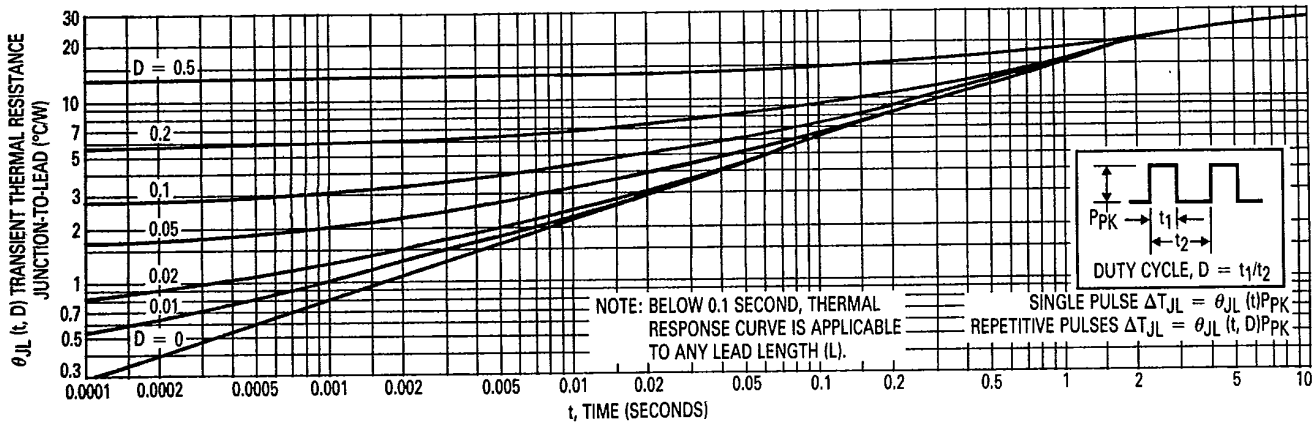
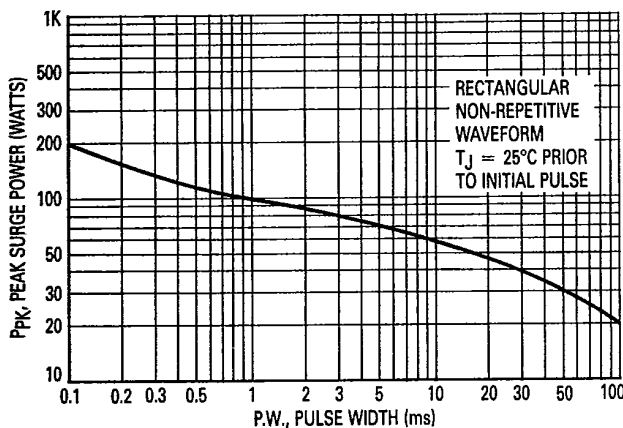
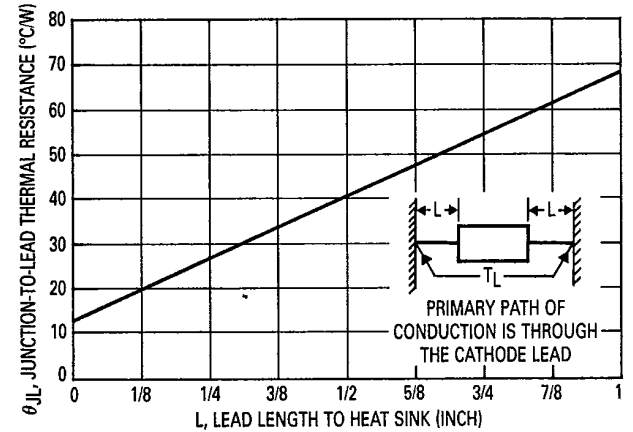

Figure 2. Typical Thermal Response L, Lead Length = 3/8 Inch
Figure 3. Maximum Surge Power
Figure 10. Typical Thermal Resistance
- (1) TOLERANCES — Suffix 1 indicates 1% tolerance, suffix 2 indicates 2% tolerance, suffix 5 indicates 5% tolerance and suffix 10 indicates 10% tolerance, any other tolerance will be considered as a special device.
- (2) ZENER VOLTAGE (V_Z) MEASUREMENT — Motorola guarantees the zener voltage when measured at $40\text{ ms} \pm 10\text{ ms}$ $3/8''$ from the diode body, and an ambient temperature of 25°C ($+8^\circ\text{C}$, -2°C).
- (3) ZENER IMPEDANCE (Z_Z) DERIVATION — The zener imped-
- (4) SURGE CURRENT (I_r) NON-REPETITIVE — The rating listed in the electrical characteristics table is maximum peak, non-repetitive, reverse surge current of 1/2 square wave or equivalent sine wave pulse of 1/120 second duration superimposed on the test current, I_{ZT} , per JEDEC standards, however, actual device capability is as described in Figure 3.
ΔT_{JL} is the increase in junction temperature above the lead temperature and may be found from Figure 2 for a train of power pulses ($L = 3/8$ inch) or from Figure 10 for dc power.
Data of Figure 2 should not be used to compute surge capability. Surge limitations are given in Figure 3. They are lower than would be expected by considering only junction temperature, as current crowding effects cause temperatures to be extremely high in small spots resulting in device degradation should the limits of Figure 3 be exceeded.